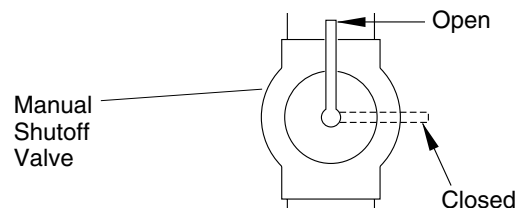

Figure 20 - Manual Shutoff Valve
1. Close manual shutoff valve (see Figure 20).
1. Open manual shutoff valve (see Figure 20).